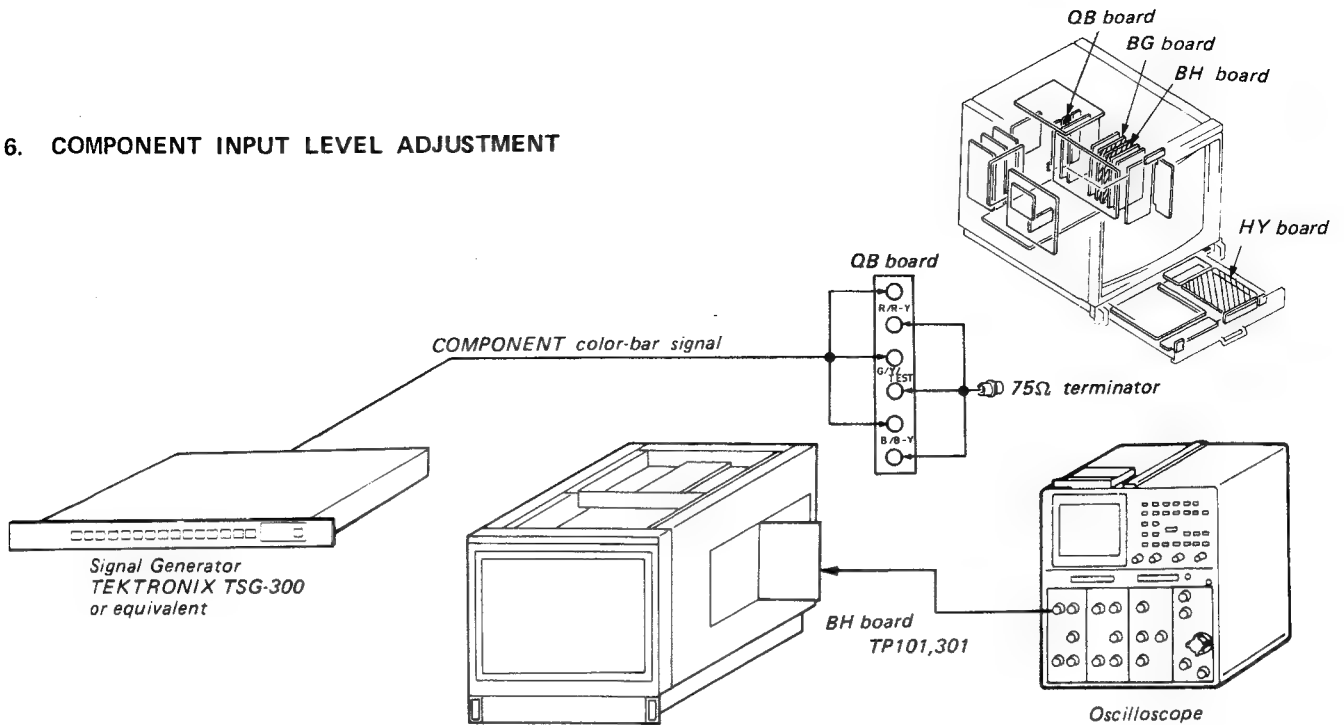

Fig. 6-1
1. Complete the connections as shown in Fig. 6-1.